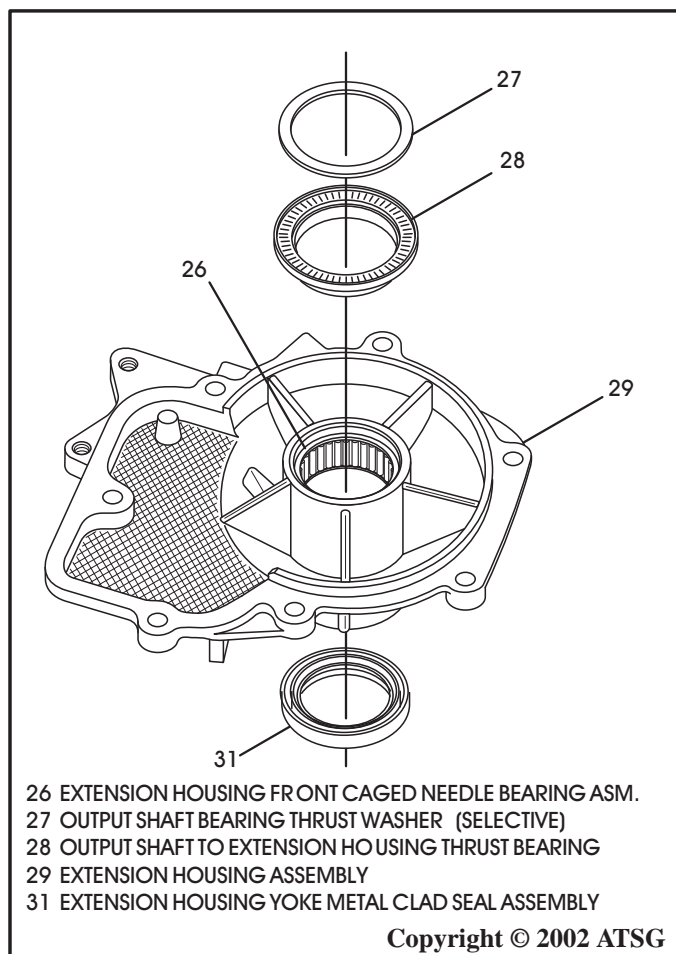

Figure 31
12. Remove the output shaft to extension housing thrust washer (27) that may be on the output shaft, or stuck to the extension housing thrust bearing. Refer to Figures 31 and 32.
13. Remove the thrust bearing which is hand pressed into the extension housing, as shown in Figure 31.
14. Remove and discard the extension housing driveshaft yoke seal, as shown in Figure 31